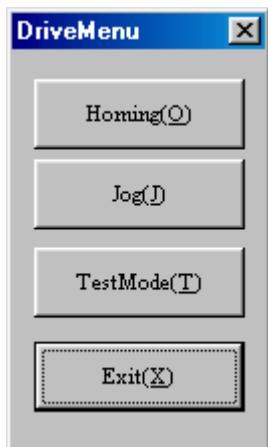

Figure 8.20 “DriveMenu” dialog box
Click “Drive (D)” under “MainMenu” to display the “DriveMenu” dialog box (see Figure 8.20).